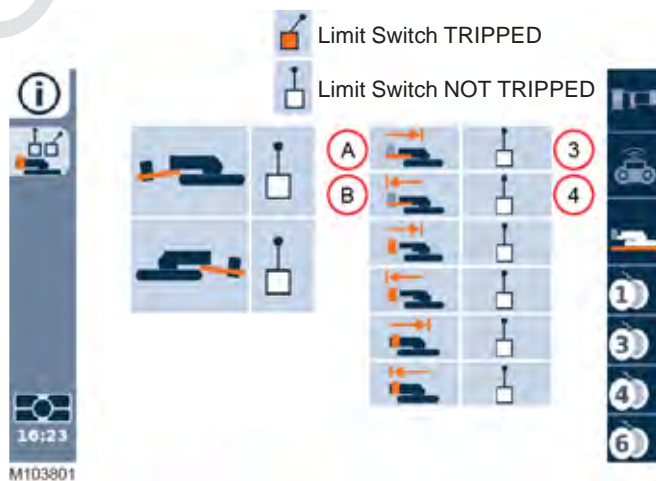

FIGURE 6-14
- b. Access the limit switch status information screen in the main display (Figure 6-14).
- d. In the main display (Figure 6-14), the minimum position (A) limit switch icon (3) must indicate that the limit switch is TRIPPED.
- f. In the main display (Figure 6-14), the maximum position (B) limit switch icon (4) must indicate that the limit switch is TRIPPED.